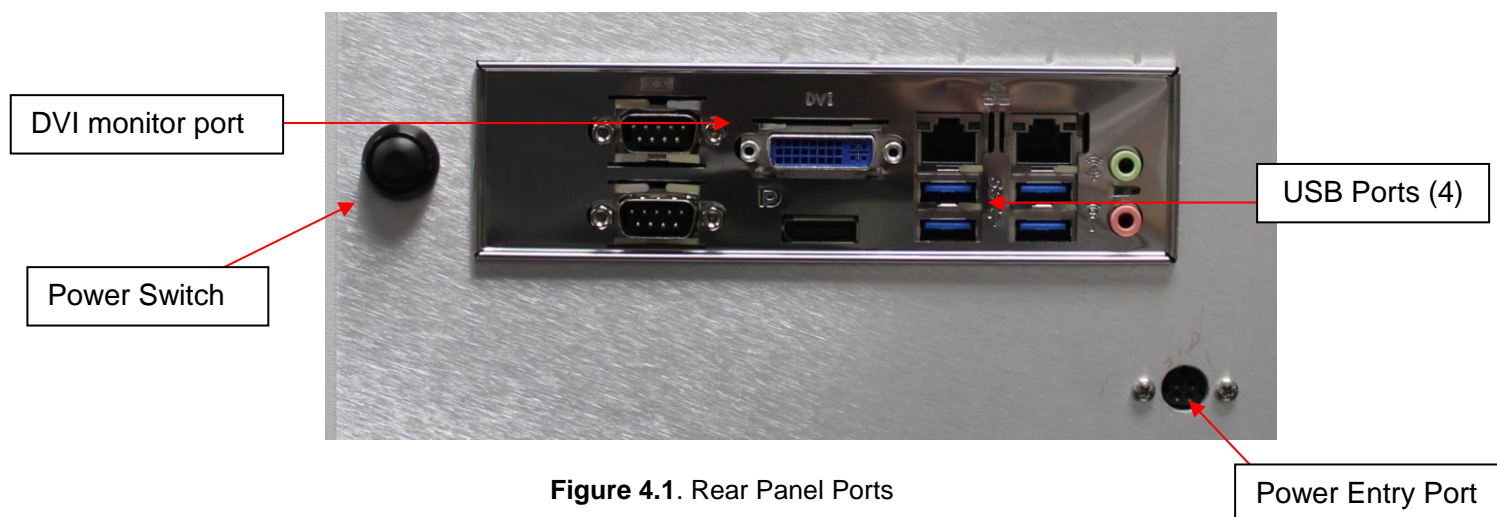

Figure 4.1. Rear Panel Ports
7. Using the video cable provided by the manufacturer, connect the monitor (VGA port, under the monitor screen) to PippinHT (DVI port, on the rear panel, see figure 4.1).
12. Connect PippinHT instrument to an electrical outlet using the power cord and power supply provided with the PippinHT. The power entry port is located is on the rear panel of the instrument (figure 4.1).